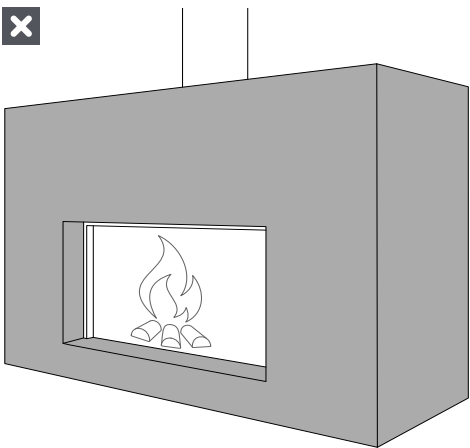
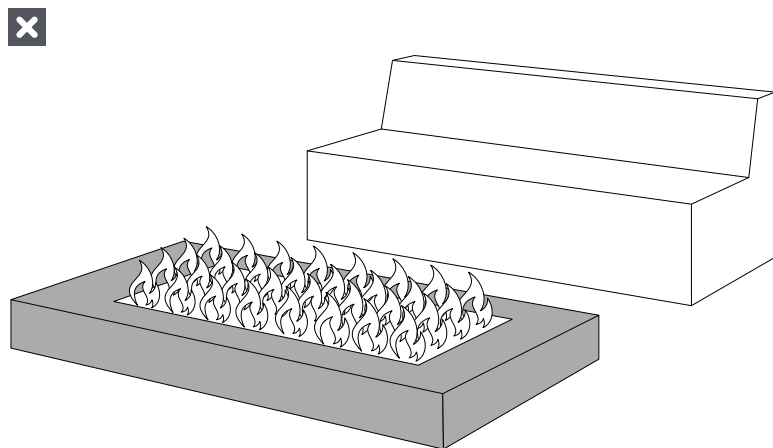

fig. 3
fig. 4
- Multi-element design: If the design allows, create a surface composed of multiple joined elements with adequate joints, in order to reduce tension and increase overall resistance (fig. 3).
Warning: Mirage® strongly advises against cladding areas where heat is directly generated or that come into immediate contact with heat with these slabs, such as the **internal walls or the fireplace hearth/threshold.** (fig. 3 - fig. 4).